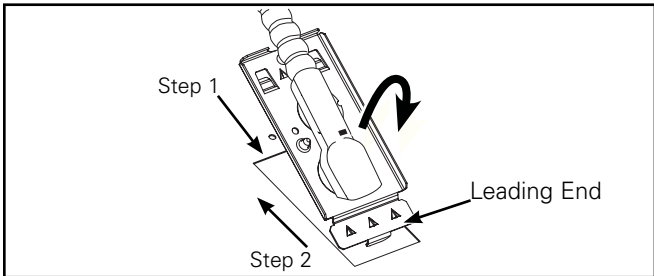

Figure 5.
- Remove electrical access plate and remove necessary knockouts from access plate for attachment of electrical supply cable (Figure 4. and Figure 5.).
- Step 1: To insert access plate, rotate until leading end is inside the wireway (Figure 5.).